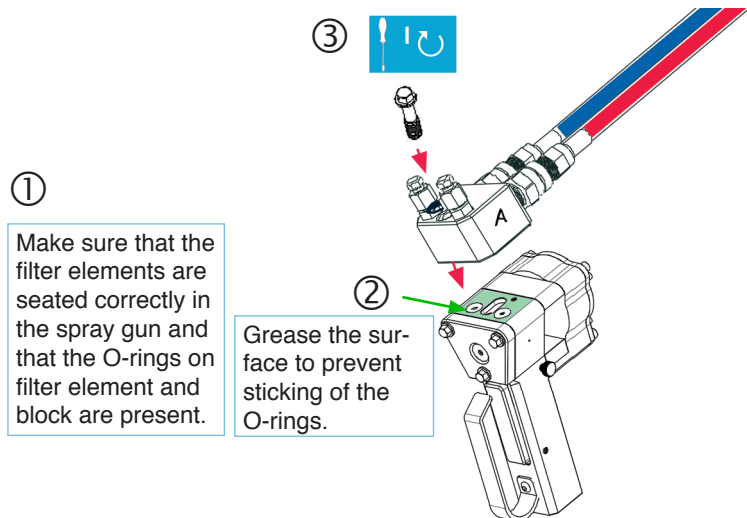

Figure 10.9
- The rear seals in the nut for leakages, (Figure 10.9). Tighten the nut only so far that leakages are eliminated. Do not overtighten.